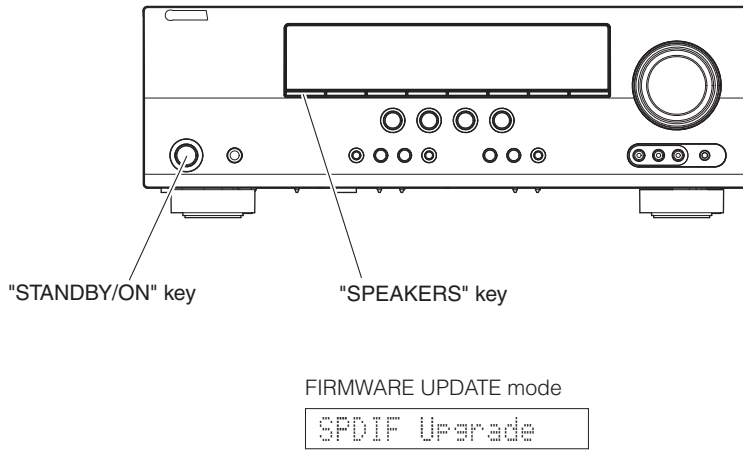

Fig. 2
1. While pressing the "STANDBY/ON" and "SPEAKERS" keys of this unit, connect the power cable of this unit to the AC outlet. (Fig. 2)
The FIRMWARE UPDATE mode is activated and "SPDIF Upgrade" is displayed. (Fig. 2)